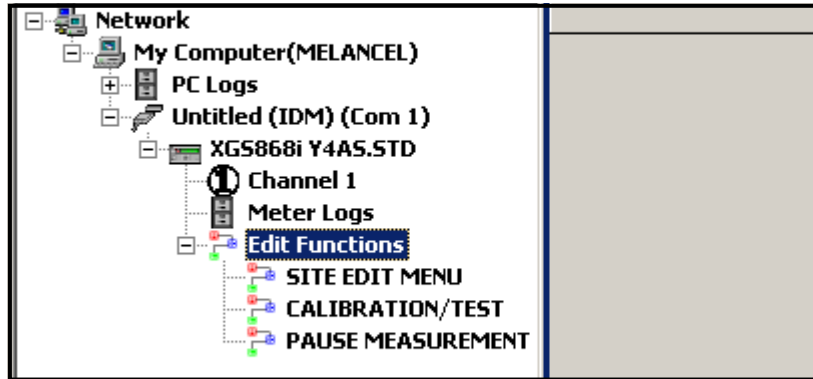

Figure 40: Menus in the *Edit Functions* Option
2. Expand the *Edit Functions* option. The window now appears similar to that shown in Figure 40 on page 91.
4. To enter a particular menu (Channel 1, Channel 2, or Global), highlight and double-click on the desired menu in the left pane. For example, clicking on Channel 1 in Figure 40 opens the list of options shown in the center pane.